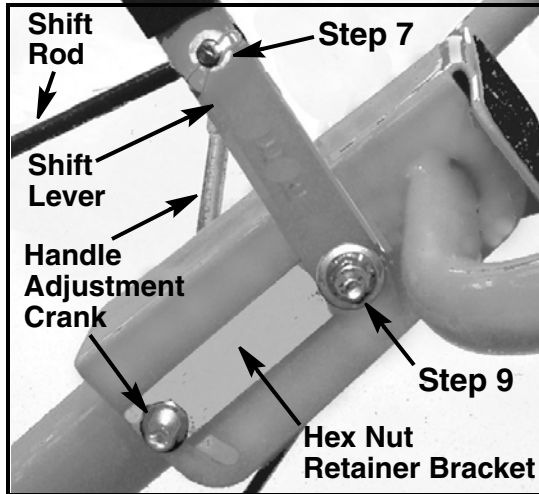

FIGURE 3
6. Figure 3 shows the existing shift lever assembly with the shift lever in the “Tines Reverse” detent position.
7. Using a pair of long nose pliers, remove and retain the hairpin clip and washer securing the shift rod to the shift lever. Carefully remove the shift rod from the lever so as not to shift the transmission out of the “Tines Reverse” detent position. See Figure 3.
8. Loosen the handle adjustment crank a few turns to allow the upper handle to pivot freely. See Figure 3.